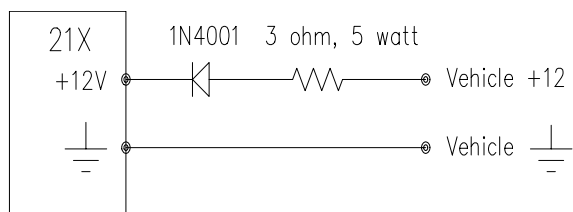

FIGURE 14.6-1. Connecting Vehicle Power Supply
When a vehicle's starting motor is engaged, the supply voltage drops considerably below the nominal 12 volts. If the 21X is connected directly to the vehicle's power supply, the 21X's batteries are also pulled down causing an E08 error each time the vehicle is started. Avoid this problem by placing a diode (1N4001) and a 3 ohm, 5 watt resistor in series with the positive lead going to the +12V terminal (Figure 14.6-1). The diode allows the vehicle to power the 21X without the datalogger attempting to charge the vehicle. The ground lead should be 16 AWG or larger to reduce the potential for ground reference errors in the measurements.
1. Remove the 21X battery base and unplug the battery from the 21X. Remove the four screws holding the aluminum cover plate and remove the cover plate. Lay the 21X, panel down, on a padded flat surface with the circuit cards up and exposed as shown in Figure 14.6-1. Plug the battery back into the 21X. Turn on the 21X.